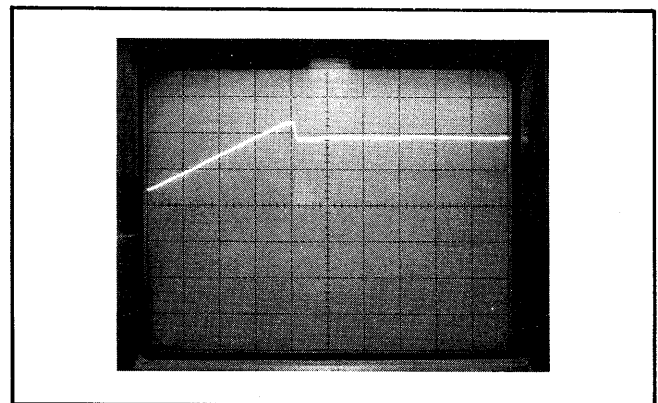

Figure 5-30. Narrow-Band Sweep, Unleveled Power
- n. Observe the network analyzer display and ensure that the trace does not go unlevelled (Figure 5-30) at any frequency between 2 and 8 GHz.